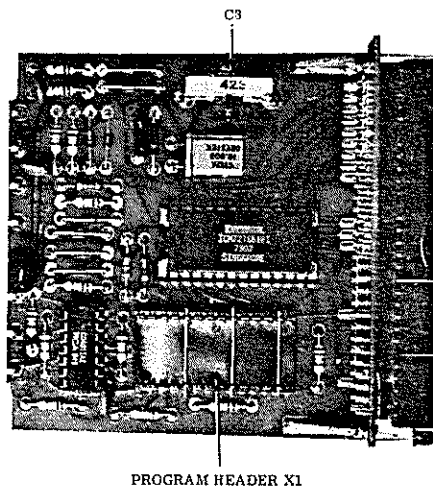

Figure 8. Calibration Adjustment
7. Adjust capacitor C3 (figure 8) until display agrees with frequency standard.